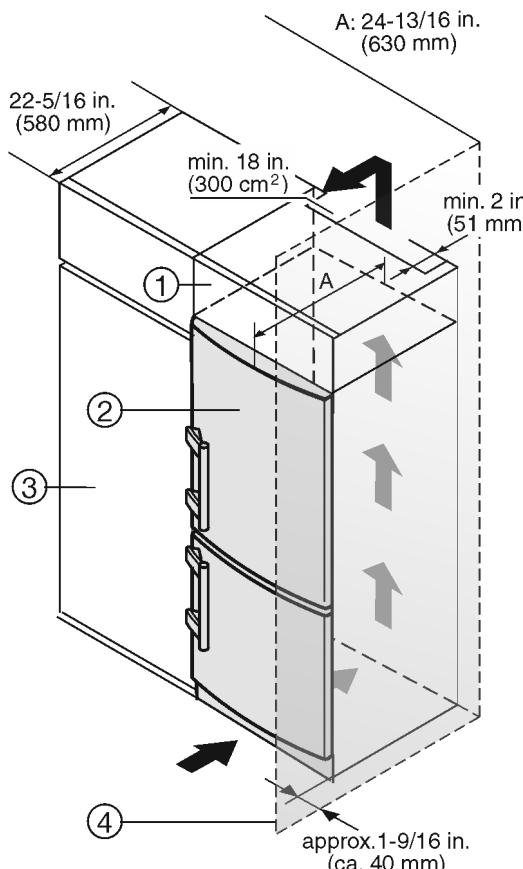

Fig. 33
(1) Top cupboard
(2) Appliance
(3) Kitchen cabinet
(4) Wall
The appliance can be built into the range of kitchen units. To bring the appliance Fig. 33 (2) up to the height of the fitted kitchen units, a suitable top cupboard Fig. 33 (1) can be added above the appliance.
When installing with kitchen cabinets (max. depth. 22-27/32 " (580 mm)) the appliance can be installed right next to the kitchen cabinet Fig. 33 (3). The appliance door projects 1-11/32 " (34 mm) at the side and in the center of the appliance 1-31/32 " (50 mm) from the front of the kitchen cabinet. This allows it to open and close properly.
If the appliance is installed with the hinges next to a wall Fig. 33 (4), the gap between the appliance and the wall must be at least 1-9/16 " (40 mm). This is how far the handle protrudes when the door is open.